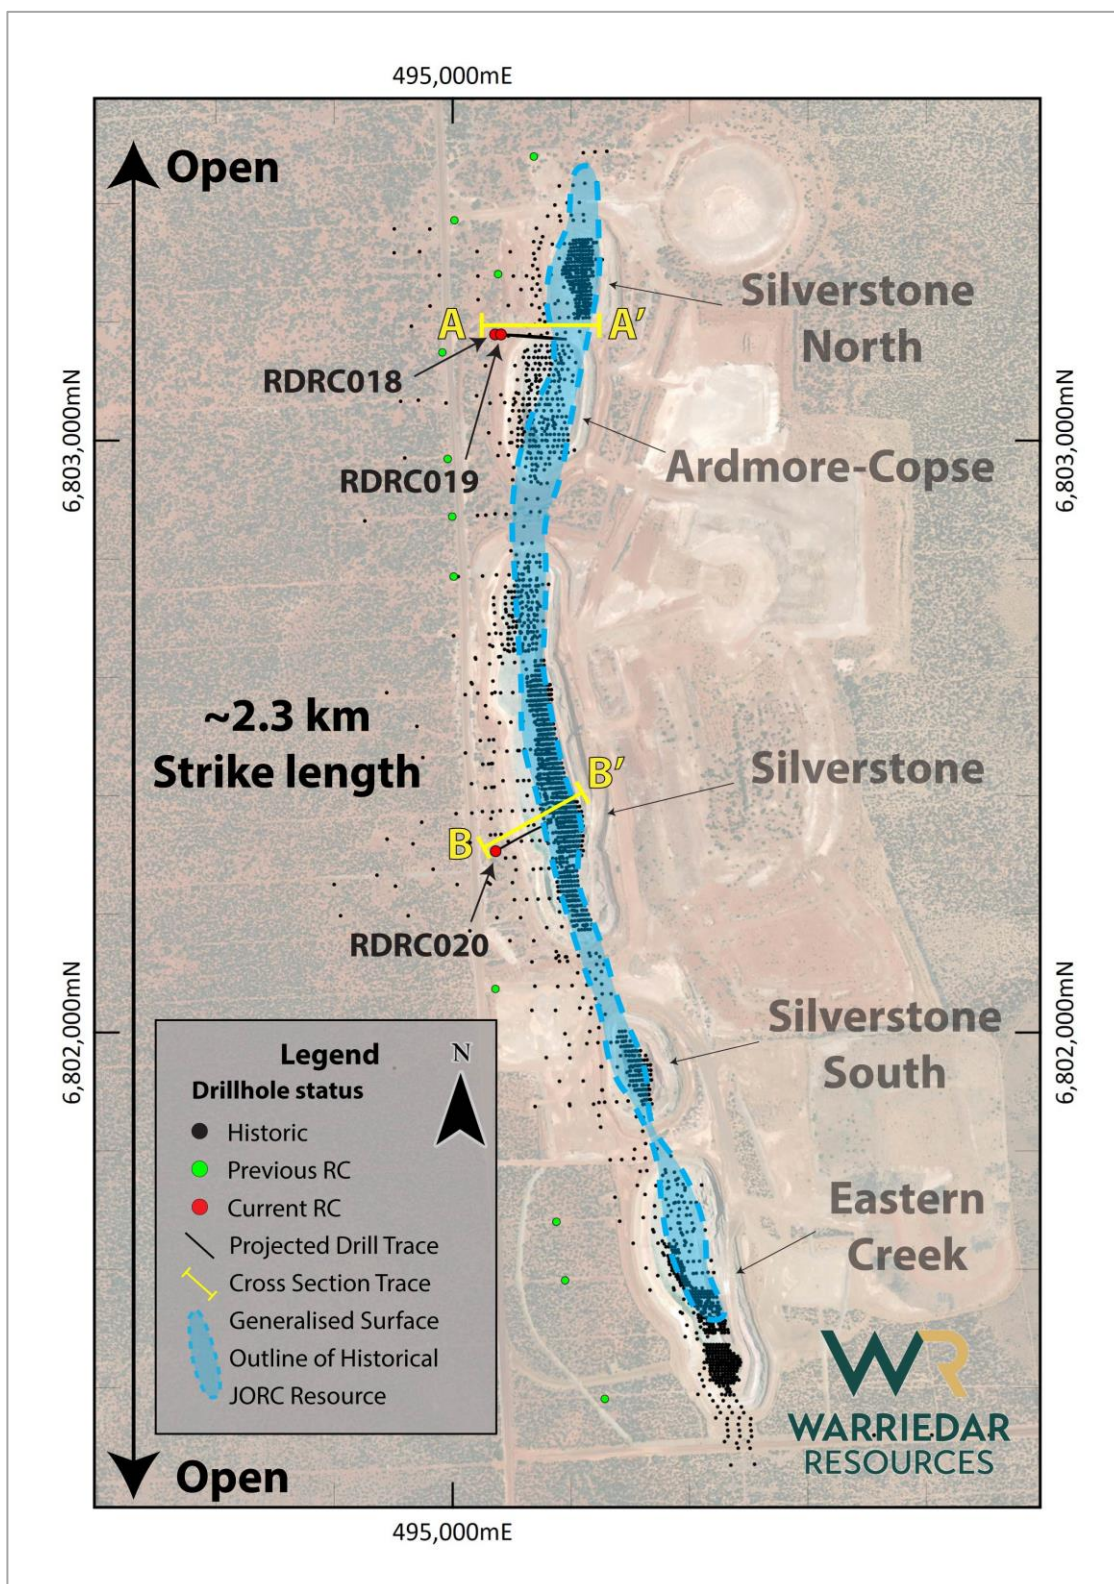

Figure 2: Plan view highlighting the relative locations of the three holes drilled into the Riccardo deposit.
Three (3) RC holes for 564m were drilled at the Ricciardo project area in November last year (refer Table 1 and Figures 2, 3 and 4). Assay results have now been received from this program and significant intercepts are reported in Table 2. Key commentary is provided below.
RDRC018 was designed to test the down-dip extension of mineralisation under the Ardmore pit (refer Figures 2 and 3) and also collect sample material for a bench scale metallurgical test work
RDRC019 was designed as a Mineral Resource infill and metallurgical test hole, testing within the known high-grade shoot under the Ardmore pit (refer Figures 2 and 3). This hole intersected:
RDRC020 was also a Mineral Resource infill and metallurgical test hole, located ~870m further south and drilled under the Silverstone pit (refer Figures 2 and 4). This hole intersected high grade mineralisation and confirmed results from previous exploration. Hole RDRC020 returned: